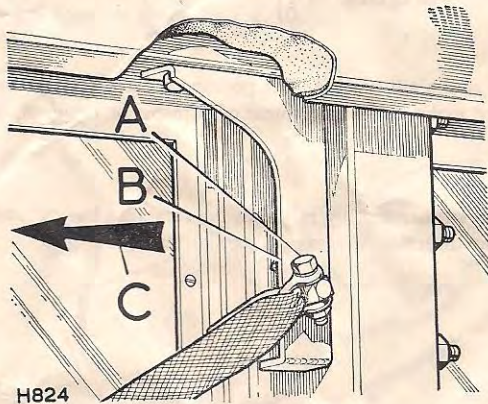

Fig. 5 Diagonal strap fixing 'BC' post. Station Wagon
8. Screw the shackle bolt into the tapped hole in mounting bracket 'B' top of 'BC' post, using rubber washer and plain washer. Tighten the shackle bolt, so that it is located as illustrated at Fig. 5. The rubber washer allows the shackle bolt to be correctly aligned. Do not over-tighten.